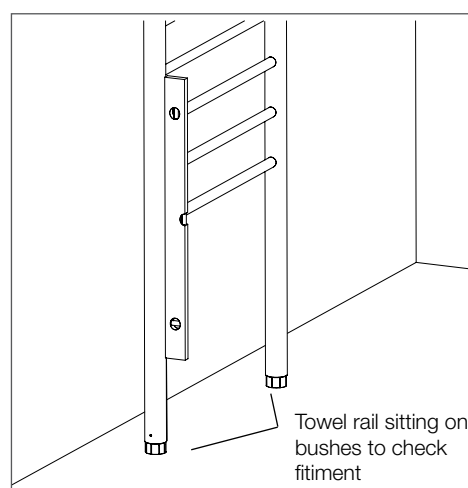

Fig 3.0
- Use a level and check if the rail is plumb. The bushes allow some lateral adjustment. See Fig 3.0.